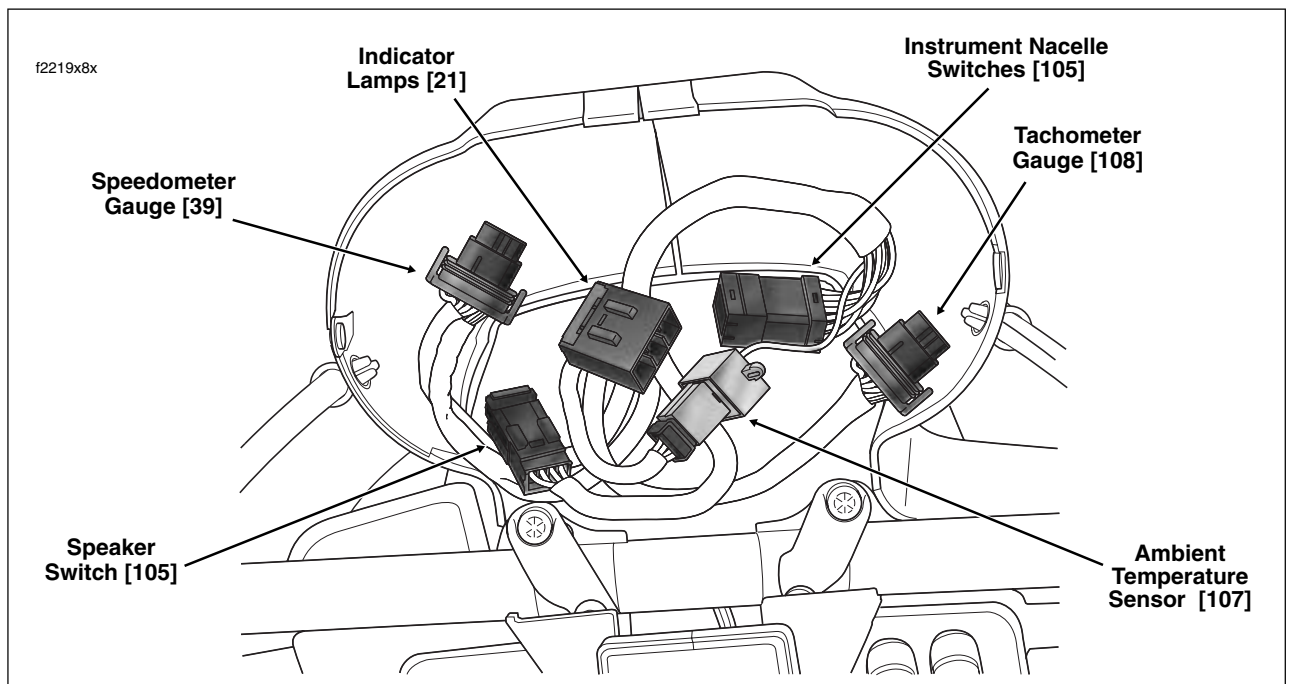

Figure 8-164. Instrument Nacelle (Bezel Removed)
8. See Figure 8-164. Disconnect instrument nacelle switches and ambient temperature sensor from interconnect harness as follows:
9. See Figure 8-164. Draw branches of interconnect harness (terminating in odometer reset switch and speedometer, tachometer, indicator lamps, instrument nacelle switch and ambient temperature sensor connectors) from instrument nacelle through tunnel of fairing bracket
4. See Figure 8-164. Connect instrument nacelle switches and ambient temperature sensor to interconnect harness as follows: